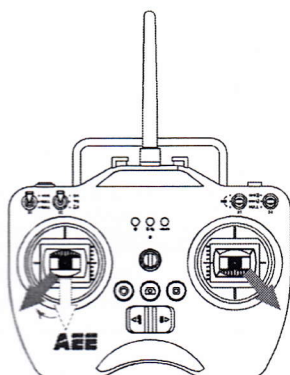

Figure 18
**Method One (Figure 18):** After the quadcopter lands, toggle the throttle joystick to the lowest position and then perform CSC, the motors will immediately stop. Release both joysticks after the motors stop.